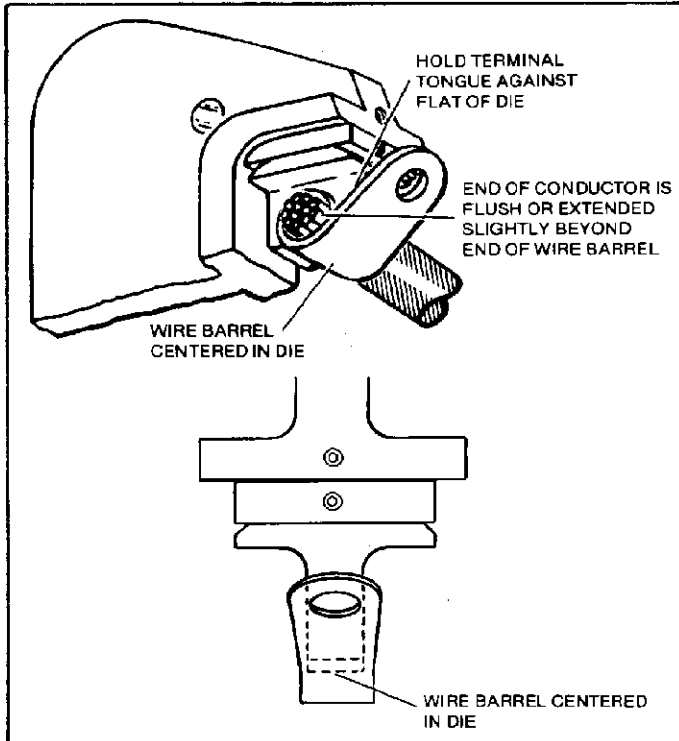

Figure 3
- (a) Center flag terminal wire barrel in stationary die and hold tongue of terminal against flat of die as shown in Figure 3.
- (c) Insert stripped wire all the way into terminal wire barrel until end of conductor is flush with or extended slightly beyond end of wire barrel. See Figure 3.